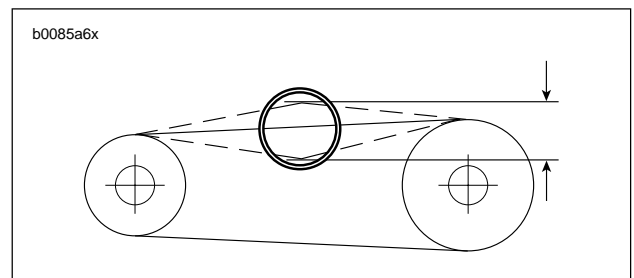

Figure 1-29. Measuring Primary Chain Tension
2. See Figure 1-29. Check primary chain tension by measuring vertical free play.